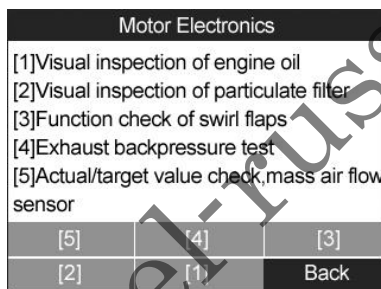

Figure 14.29
- a) From the particle filter test menu (Figure 14.29) use the **LEFT/RIGHT** scroll button to select **1** and press the **OK** button.
- a) From the particle filter test menu (Figure 14.29) use the **LEFT/RIGHT** scroll button to select **[2]** and press the **OK** button.
- a) From the particle filter test menu (Figure 14.29) use the **LEFT/RIGHT** scroll button to select **[3]** and press the **OK** button.
- a) From the particle filter test menu (Figure 14.29) use the **LEFT/RIGHT** scroll button to select **[4]** and press the **OK** button.
- a) From the particle filter test menu (Figure 14.29) use the **LEFT/RIGHT** scroll button to select **[5]** and press the **OK** button.